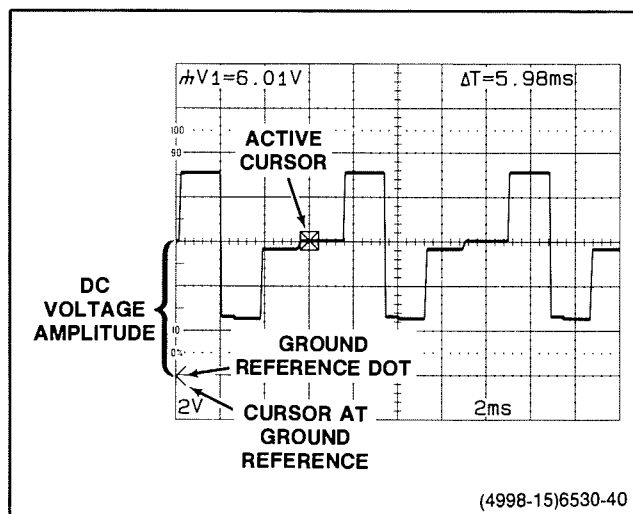

Figure 6-2. Ground referenced dc voltage, cursor method.
9. Use the CURSORS control to move the active cursor to the point of interest on the waveform (see Figure 6-2).